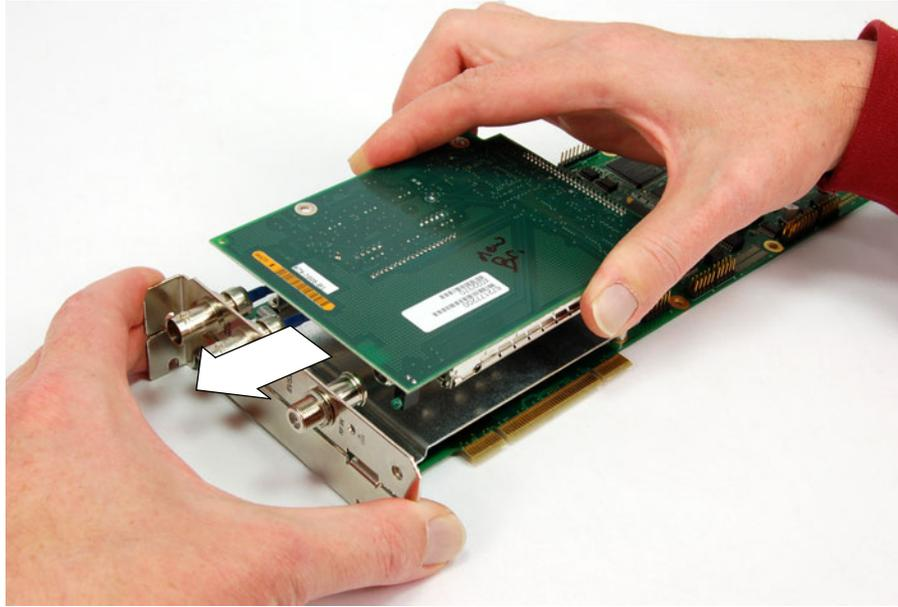

Figure 19: Engaging the F-connector with the top circuit board
15. Grasp the rear panel on the interface module, and then slide the top circuit board towards the rear panel until the F-connector is engaged with the circuit board (see Figure 19).